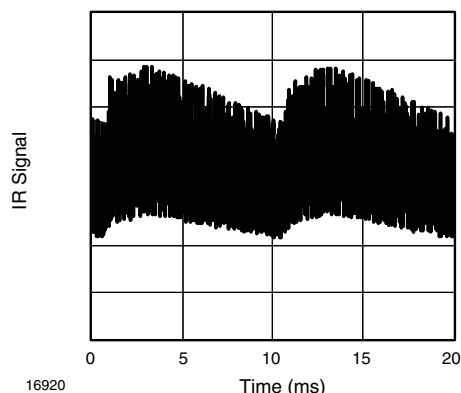

Fig. 13 - IR Signal from Fluorescent Lamp with Low Modulation
- Strongly or weakly modulated patterns from fluorescent lamps with electronic ballasts (see fig. 13 or fig. 14)